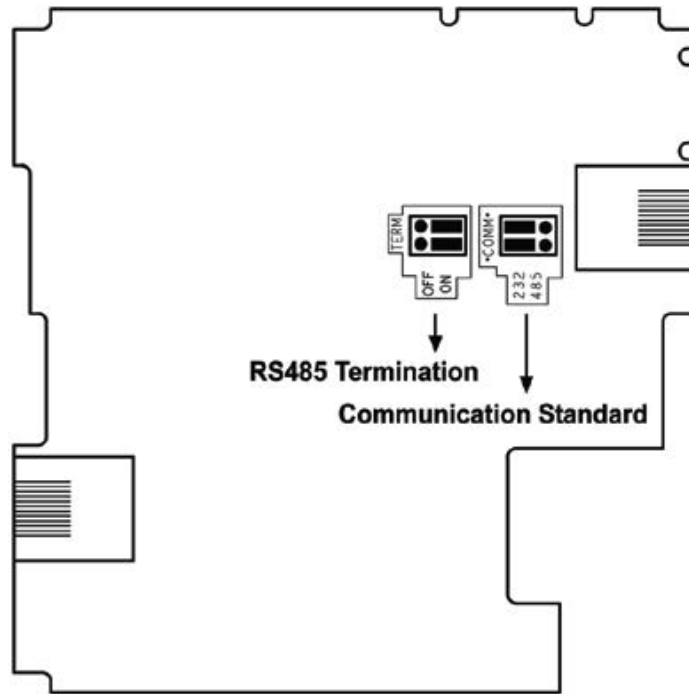

Figure B-4. Communication Port Jumpers
- Table B-3 and Figure B-4 indicates how to set a specific jumper to change communication functionality.